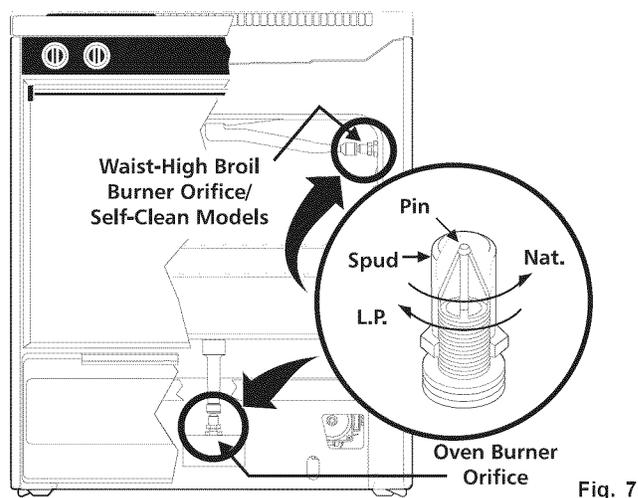

Fig. 7
- Locate the oven burner spud (See Fig. 7).
- Locate the broiler burner spud and turn down until snug against the LP/Propane metering pin (approximately 1 to 1-1/2 turns). **DO NOT** over tighten (See Fig.7).